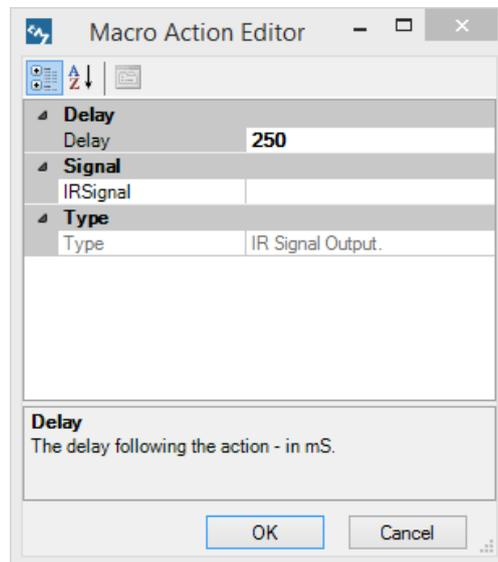

Figure 16. Dialog box for adding a signal to a macro
3. In the right-hand panel, right-click and select *Add Action*, which will bring up the action dialog box shown in Figure 16.